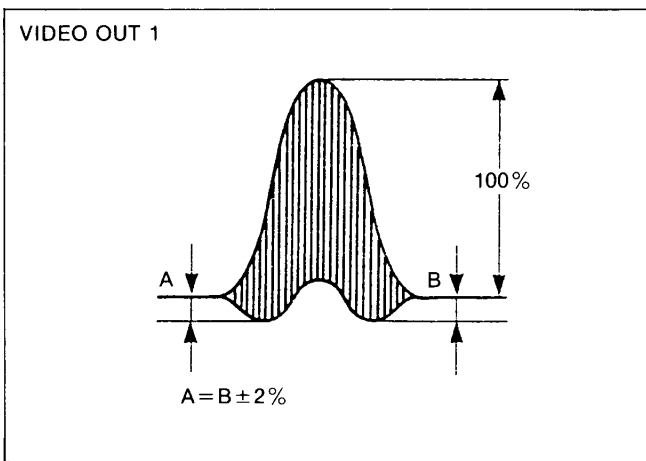

Figure E42
4. Adjust VR8007 so that the waveform becomes as shown in Figure E42.